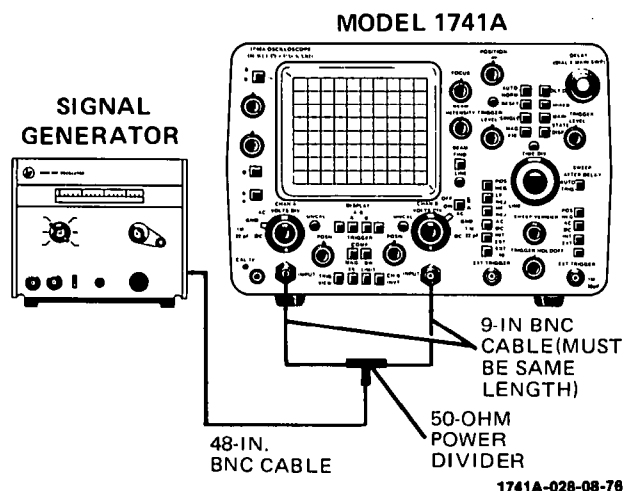

Figure 4-2. CMRR Test Setup
- a. Connect equipment as shown in figure 4-2.